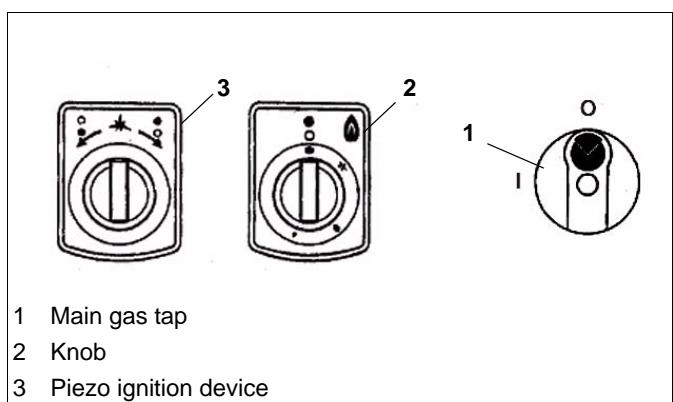

Fig.9 Control panel
- ⇒ Turn on the water supply tap (4/Fig.9) until the trough is full.
The knob (2/ Fig.9) has four main settings:
- ⇒ Push the knob (2/Fig.9) fully in.
- ⇒ Push the knob (2/Fig.9) fully in and hold it there.
- ⇒ At the same time, ignite the gas escaping at the pilot burner with the piezo ignition device. The burner is ignited by turning the knob (3) clockwise or anti-clockwise.
- ⇒ Press the knob (2/Fig.9) in lightly and turn it anti-clockwise from the pilot burner ignition position (★) to the highest setting (▲).
- ⇒ Push the knob (2/Fig.9) in fully and turn it anti-clockwise from the highest setting (▲) towards the lowest setting (●). The flame thus becomes smaller and smaller. The main burner has the least output in the low setting (●).
- ⇒ To return from the low setting (●) to the high setting (▲), push the knob (VB, HB / Fig.9) fully in and turn it clockwise.
- ⇒ Turn the switch (2/Fig.9) to the highest setting (▲).
- ⇒ Set the appropriate cooking temperature with the switch (2/Fig.9), according to the quantity and quality of the food to be cooked.
- ⇒ Turn back the knob (2/Fig.9) clockwise from the high setting (▲) to pilot burner ignition (★).
- ⇒ Press the knob (2/Fig.9) in lightly and turn it clockwise from pilot burner ignition to Off.
- ⇒ Switch off main burner and pilot burner (2/Fig.9).
- ⇒ Turn off the main gas tap (1 / Fig.9).